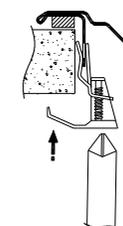

Fig 5
13. Making sure the sink is still straight; fix the sink to the worktop by tightening the screws on the fixing clips using a crosshead screwdriver (fig. 5). This will pull the sink frame down, tight and flat to the top surface to the worktop.